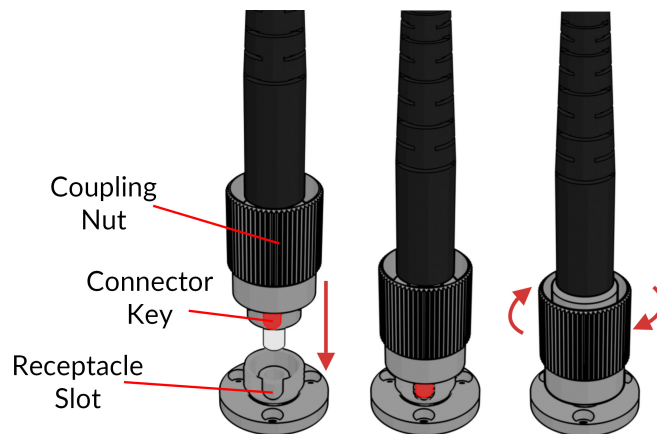

Figure 3.1: FC connector, Fiber Installation
2. With an FC connector, the connector key must be oriented to enter within the receptacle slot to ensure proper connection (Fig. 3.1).